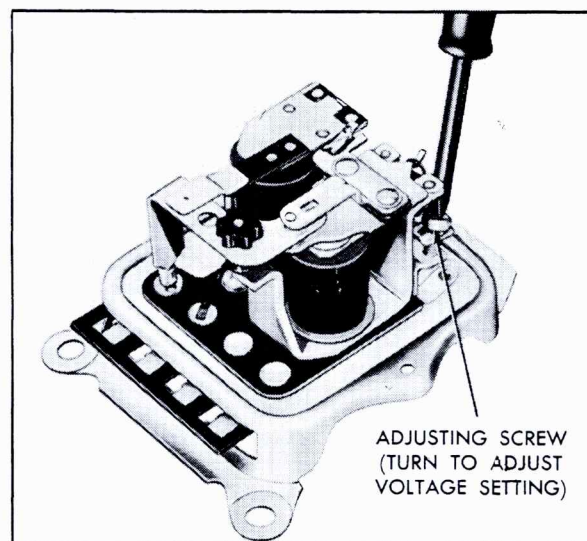

Fig. 6-32 Adjusting Voltage Regulator Setting
12. Turn adjusting screw as shown in Fig. 6-32.
19. To decrease the difference in voltage between upper and lower contact operation, turn the nylon nut, Fig. 6-32 clockwise a slight amount. To increase the difference, turn nylon nut counterclockwise. If this adjustment is made, the voltage setting must be re-checked as covered in Steps 12 through 18.